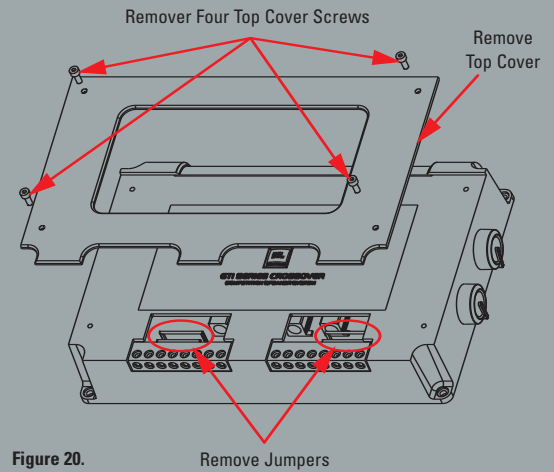

Figure 20.
- If you are bi-amping the speakers, remove the jumpers, as illustrated in Figure 20.